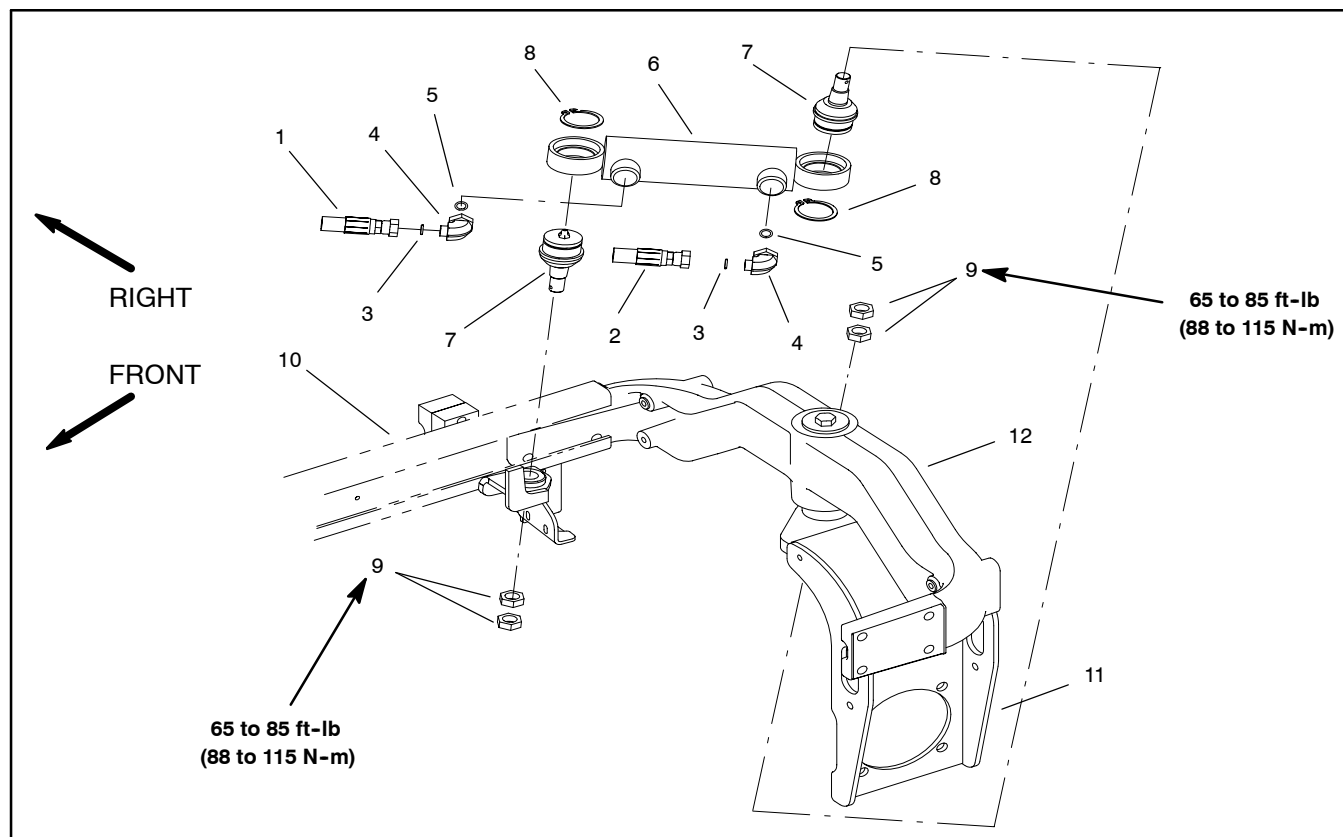

Figure 68
Removal (Fig. 68)
5. Remove steering cylinder from the frame and rear fork using Figure 68 as guide.
Installation (Fig. 68)
2. Install steering cylinder to the frame and rear fork using Figure 68 as guide. When securing cylinder ball joints to machine, tighten the first jam nut from 65 to 85 ft-lb (88 to 115 N-m), then tighten the second jam nut to the same specification.
3. Mount rear wheel to the machine with four (4) lug nuts. Lower machine to the ground. Torque lug nuts in a crossing pattern from 45 to 65 ft-lb (61 to 88 N-m).